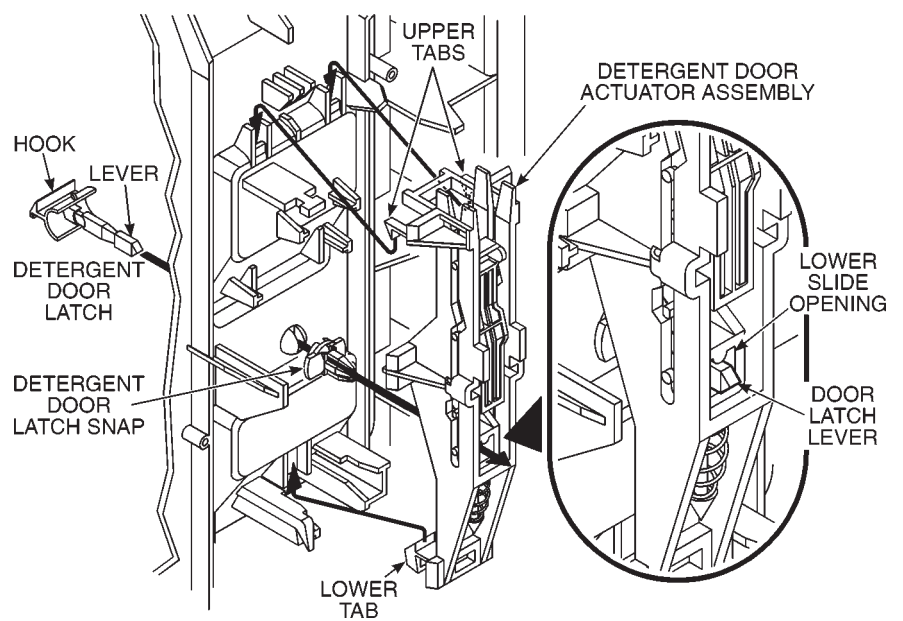

Fig. 1-31
10. Use a screwdriver to gently release the lower tab and remove the detergent door actuator assembly. As you do, note the position of the door latch level through the hole in the lower slide. (Fig. 1-31)
2. Pass the detergent door latch lever through the panel making sure to turn the hook of the latch toward the detergent door. Snap the detergent door latch snap onto the door latch lever. (*Fig. 1-31*)